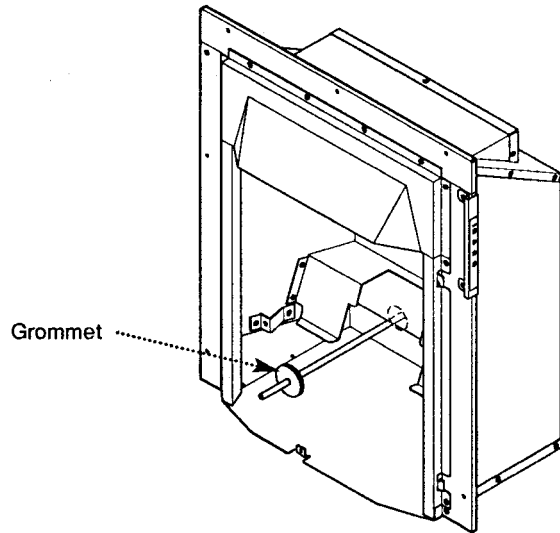

Fig. 10 Fit grommet over gas pipe and fit in hole in box once box is fitted back.
2. When running the gas supply from the rear it is necessary to remove the grommet from the large hole in the fire back panel, left hand side. The grommet must be cut in order to accommodate the gas pipe and replaced back in position (Fig. 10).